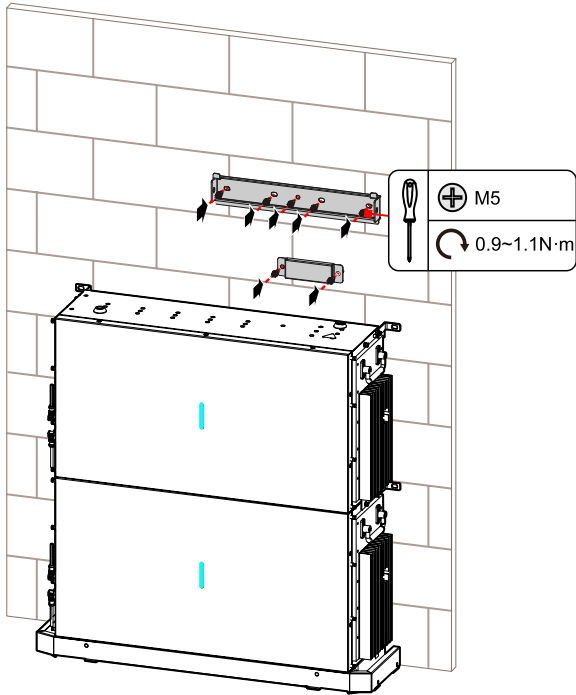

Figure 3-25 Install inverter wall bracket
3. Attach the wall bracket to the wall using seven M5 Self-tapping screws with the tool of screwdriver, as shown in Figure 3-25.